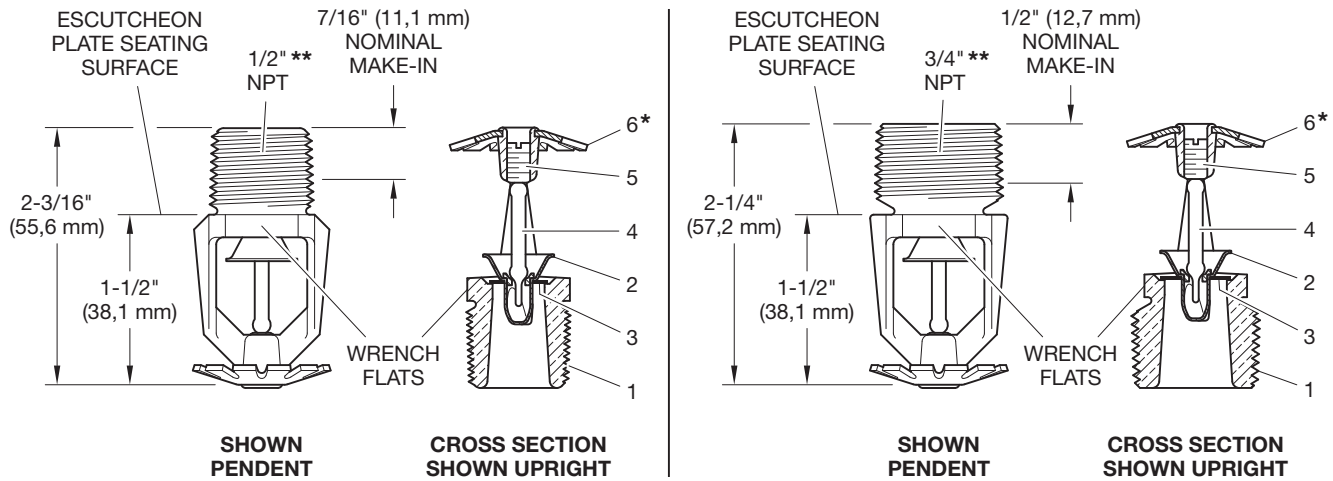
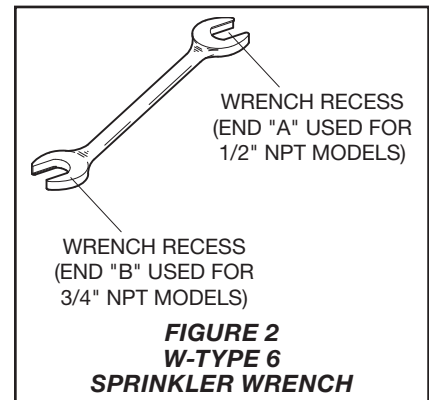

FIGURE 1
FIGURE 2
Step 2. Tighten the sprinkler into the sprinkler fitting using only the W-Type 6 Sprinkler Wrench (Ref. Figure 2). With reference to Figure 1, the W-Type 6 Sprinkler Wrench is to be applied to the Wrench Flats.